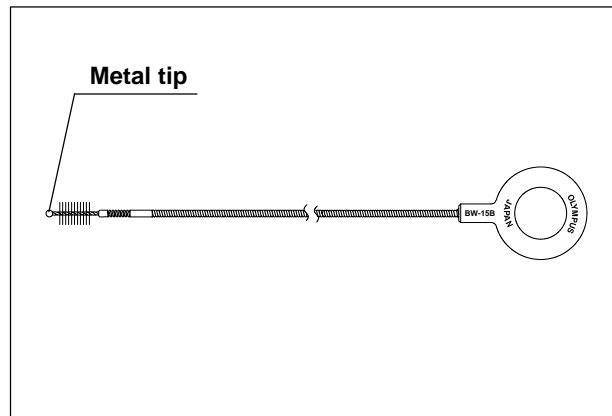

Figure 7.4
The channel cleaning brush is used to brush the inside of the instrument and suction channels (see Figure 7.4).
1. Confirm that the brush section and the metal tip at the distal end are securely in place. Check for loose or missing bristles (see Figure 7.4).